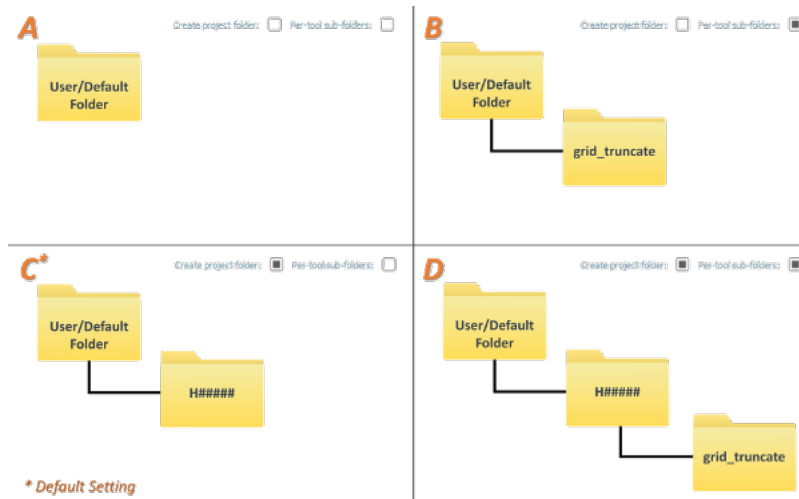

Fig. 2.59: The resulting folder structure based on the four available combinations of output flags.
- No flags set (see Fig. 2.59, pane A). The outputs are stored directly under the default or user-defined location.
- Only the **Per-tool sub-folders** flag set (see Fig. 2.59, pane B). The outputs are stored in a tool-specific sub-folder (in the default or user defined-location).
- Only the **Create project folder** flag set (see Fig. 2.59, pane C). The outputs are stored in a survey folder (in the default or user defined-location). *This is the default setting.*
- Both flags set (see Fig. 2.59, pane D). The outputs are stored in tool-specific sub-folders in a survey folder (in the default or user defined-location).